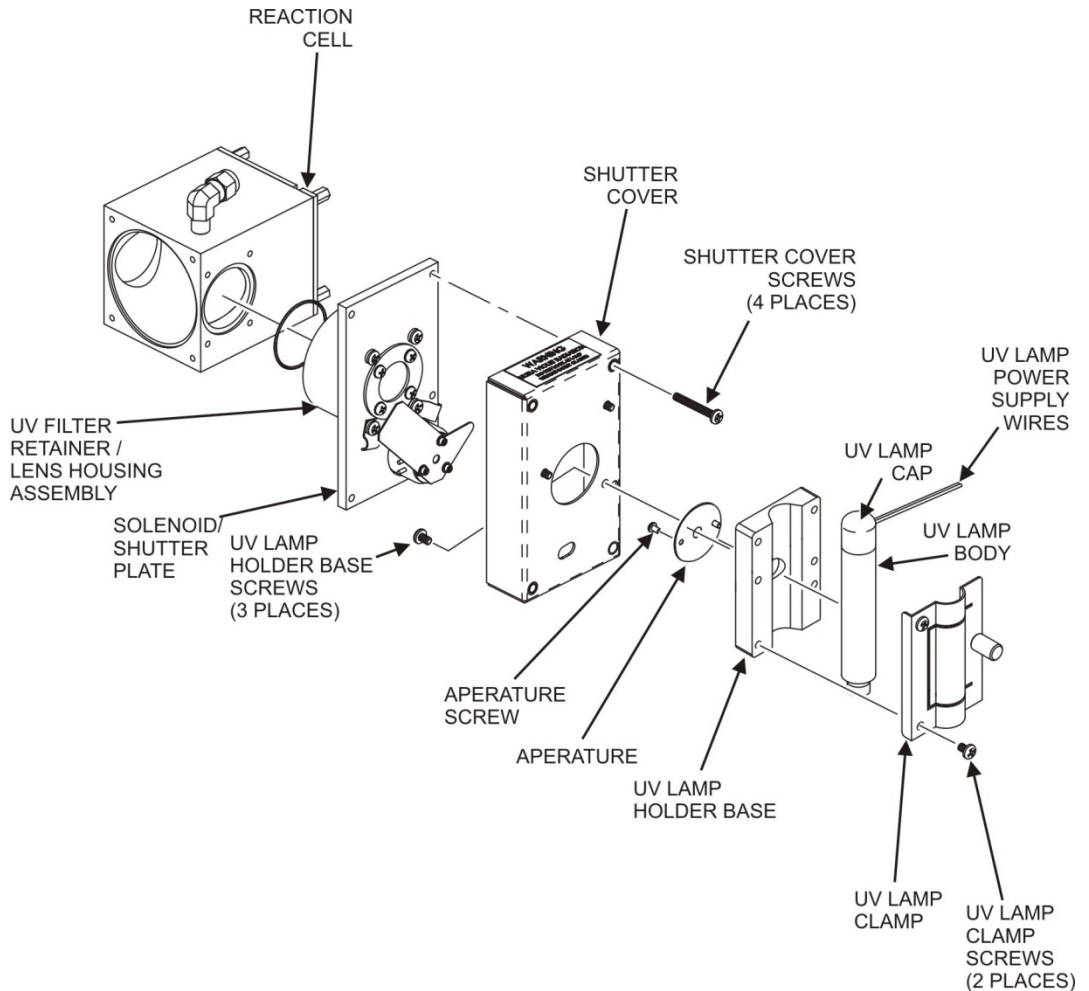
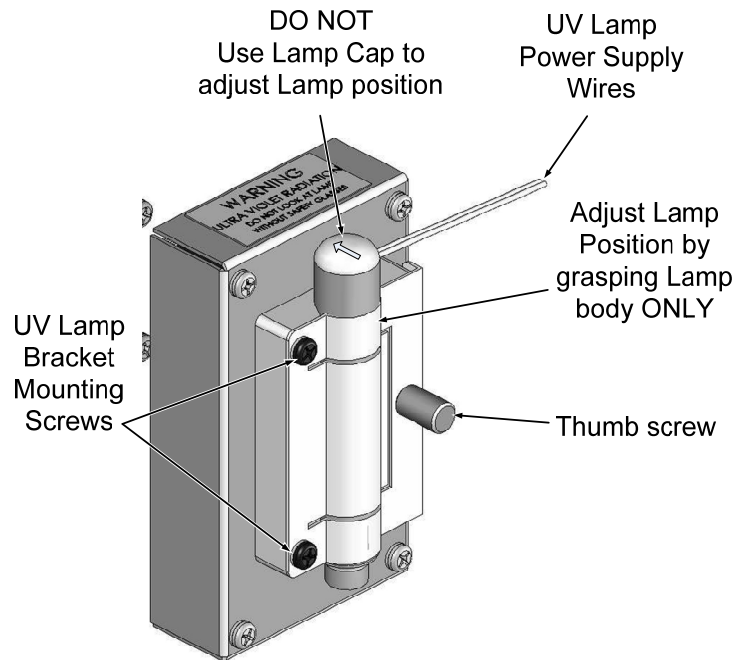

Figure 12-13: Shutter Assembly
Figure 12-14. UV Lamp Adjustment
4. Remove 4 screws from the shutter cover (refer to Figure 12-13) and remove the cover.
2. Slightly loosen the large brass thumbscrew located on the shutter housing (refer to Figure 12-14) so that the lamp can be moved.
**DO NOT** grasp the UV lamp by its cap when changing its position - always grasp the main body of the lamp (refer to Figure 12-13). Inattention to this detail could twist and potentially disconnect the lamp's power supply wires.
4. Loosen, but do not remove the two UV lamp bracket screws and the large brass thumbscrew located (refer to Figure 12-13 and Figure 12-14) on the shutter housing so that the lamp can be moved.
**DO NOT** grasp the UV lamp by its cap when changing its position - always grasp the main body of the lamp (refer to Figure 12-13) Inattention to this detail could twist and potentially disconnect the lamp's power supply wires.